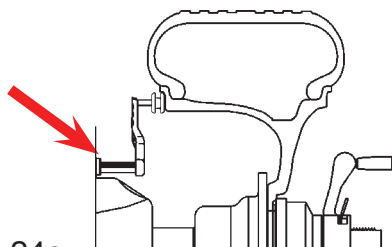

Figure 24c
- Move the distance gauge arm to touch the inner edge of the wheel where weights are to be placed and observe the reading on the scale of the distance gauge (See arrow, Fig. 24c). Press manual Wheel **Offset** button (O) followed by selecting the +/- keys until value is displayed in the display window.